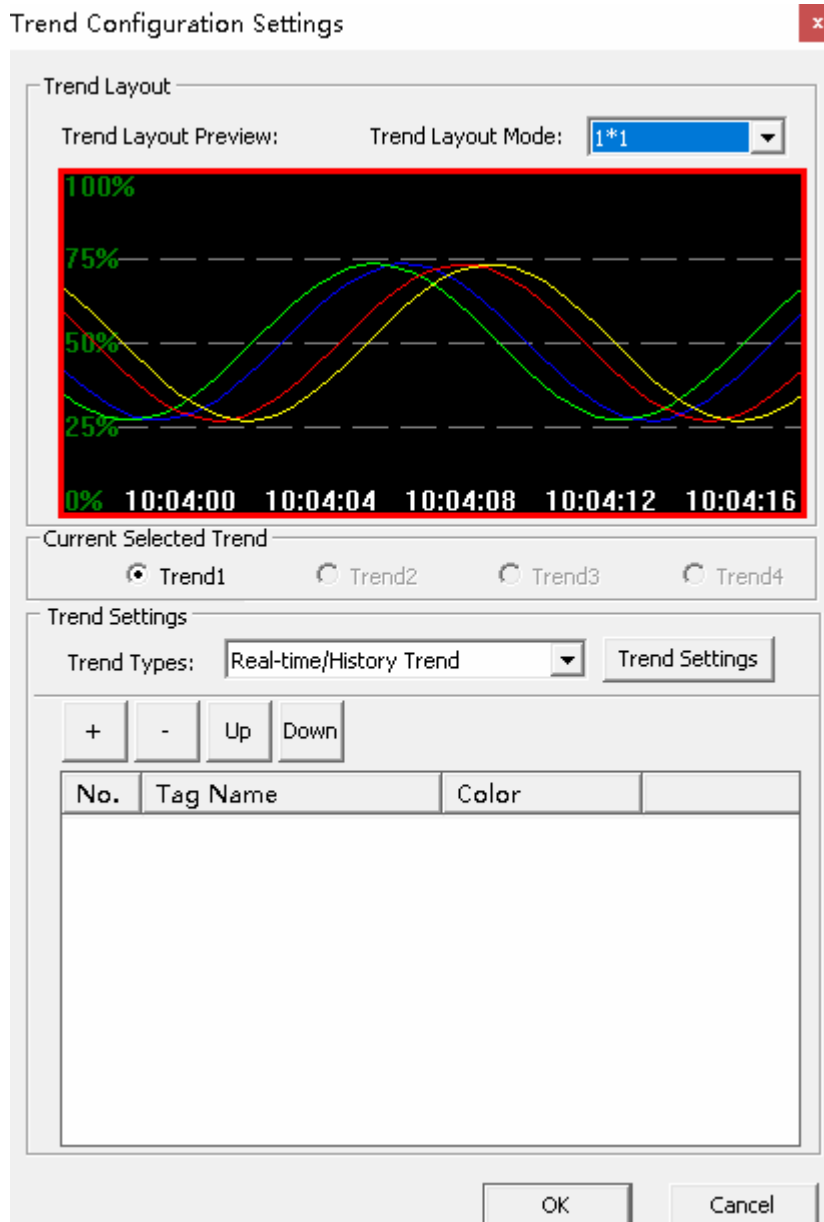

Figure 4-22 Trend configuration settings window
Double-click “ENG_Release1” in the left pane (or click “Edit” button in the right pane then double-click the information display area in right), and trend configuration settings window will pop up, as shown in the Figure 4-22.
1. Click  in Figure 4-22, to pop up the “Tag Selector” below.